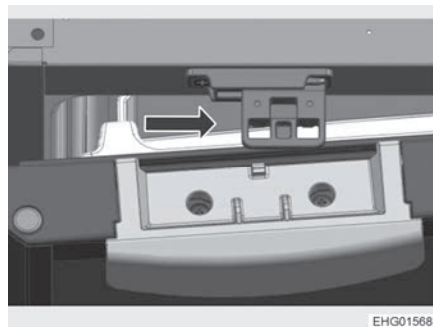

Fig. 136 Locking device
- Push the locking device to the right (Fig. 136, arrow).